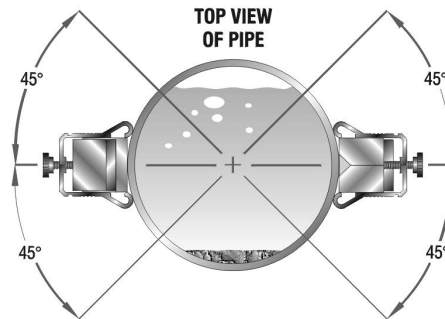

Figure 2.5 Transducer mounting locations on horizontal pipe.
The DTT transducers need to be properly oriented on the pipe to provide optimum reliability and performance. On horizontal pipes, the transducers should be mounted 180 radial degrees from one another and at least 45 degrees from the top-dead-center and bottom-dead-center of the pipe. See **Figure 2.5**. Figure 2.5 does not apply to vertically oriented pipes.
Crease the paper at the fold line. Mark the crease. Place a mark on the pipe where one of the transducers will be located. See **Figure 2.5** for acceptable radial orientations. Wrap the template back around the pipe, placing the beginning of the paper and corner in the location of the mark. Move to the other side of the pipe and mark the ends of the crease. Measure from the end of the crease (directly
1. Install the single mounting rail on the pipe in a orientation suggested by **Figure 2.5** (using only a single rail, not the two opposing rails pictured) with the stainless steel bands provided. Orientation on vertical pipe is not critical. Ensure that the track is parallel to the pipe and that all four mounting feet are touching the pipe.